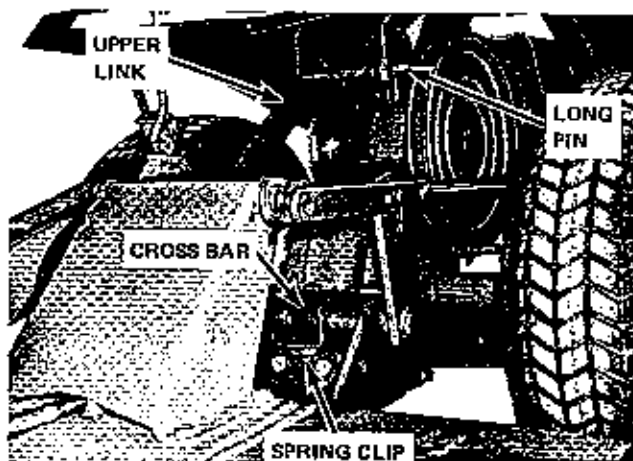

FIGURE 3
3. Position the revitalizer unit at the rear of the tractor. Lift the front bracket up and drop the crossbar into the notches on the hitch bracket. The pin on the crossbar clevis goes through the hole in the original tractor drawbar bracket and is secured with a spring clip. Mount the upper link ears on the transmission side plates using the long pin and two spring clips. (See Figure 3)